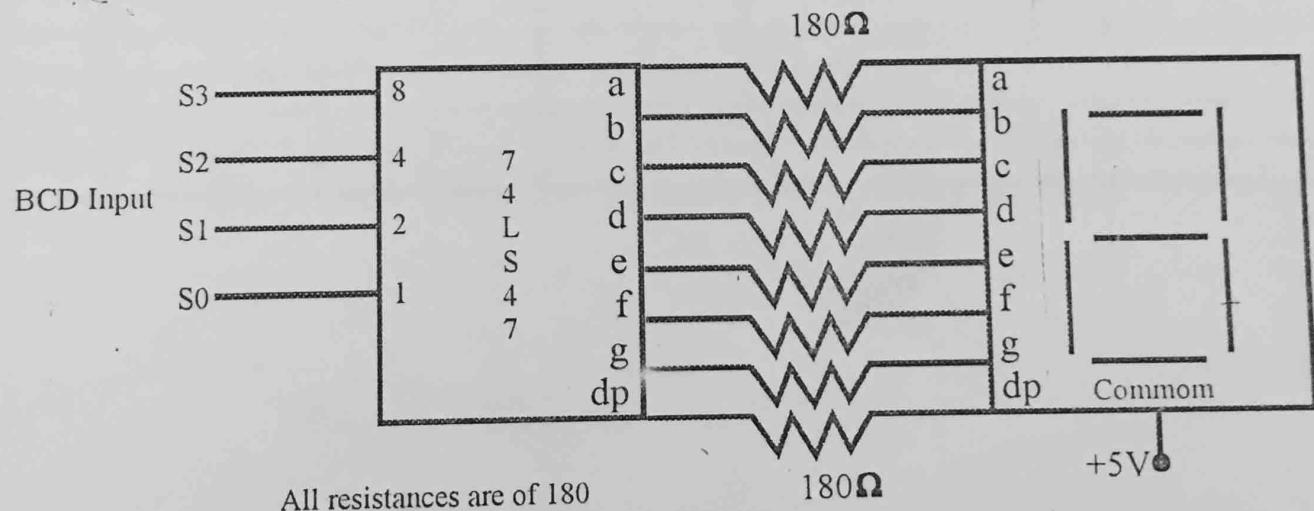

Figure 15.1
10. The circuit in fig. 15.1 is also provided in AM-2000 Trainer. The BCD input is available on SBB-63 and as 8421.